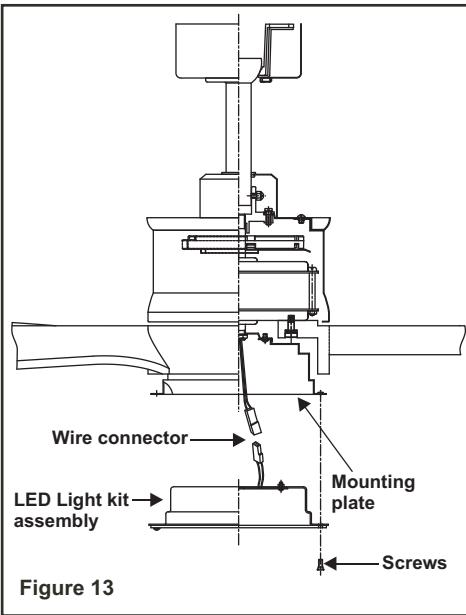

Figure 13
2. While holding the LED light kit under the fan motor assembly, make the 2-pin wire connections: (Fig. 13)
3. Place the LED light kit to the mounting plate. Align the mounting holes with the holes in the light kit and mounting plate, and fasten using the two screws previously removed. (Fig. 13)